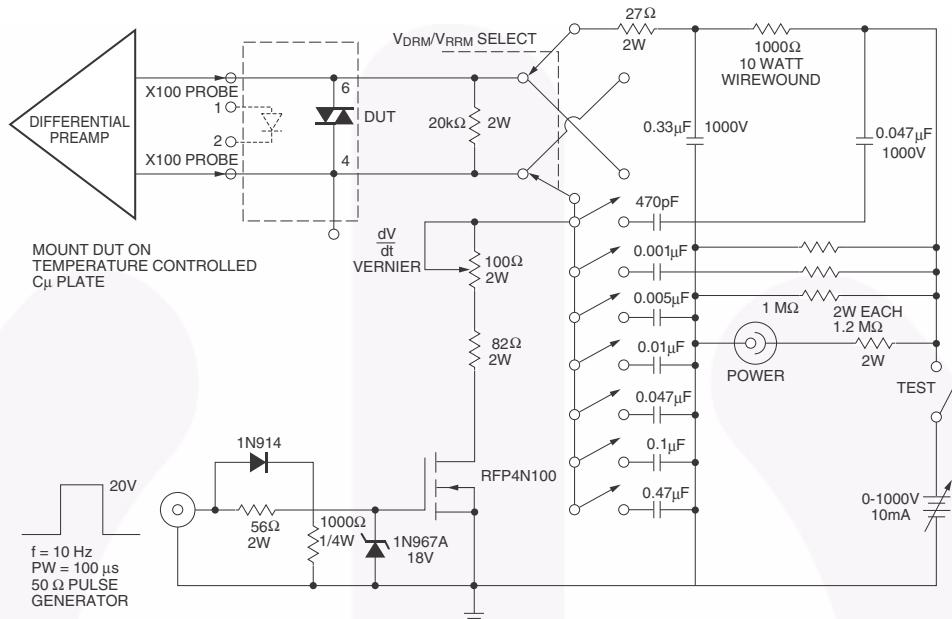

Figure 11. Circuit for Static $\frac{dV}{dt}$ Measurement of Power Thyristors
2. This is static dv/dt. See Figure 11 for test circuit. Commutating dv/dt is a function of the load-driving thyristor(s) only.